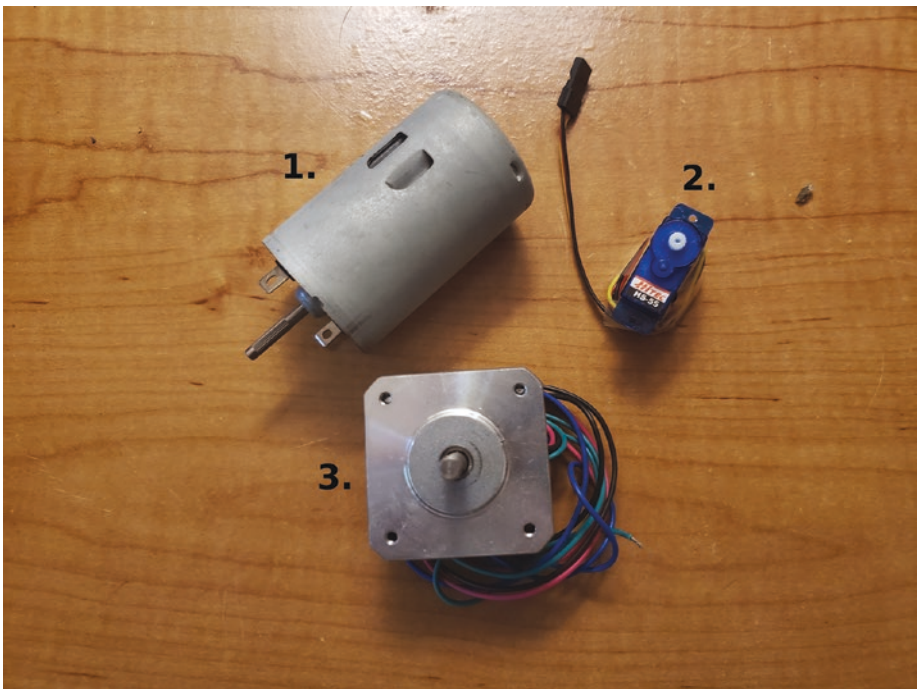

Figure 1-6. 1. 12V DC motor, 2. 9g servo motor, 3. 24V DC pancake stepper motor
- Servos and motors: We will be using motors and servos to control many aspects of the projects (see Figure 1-6).